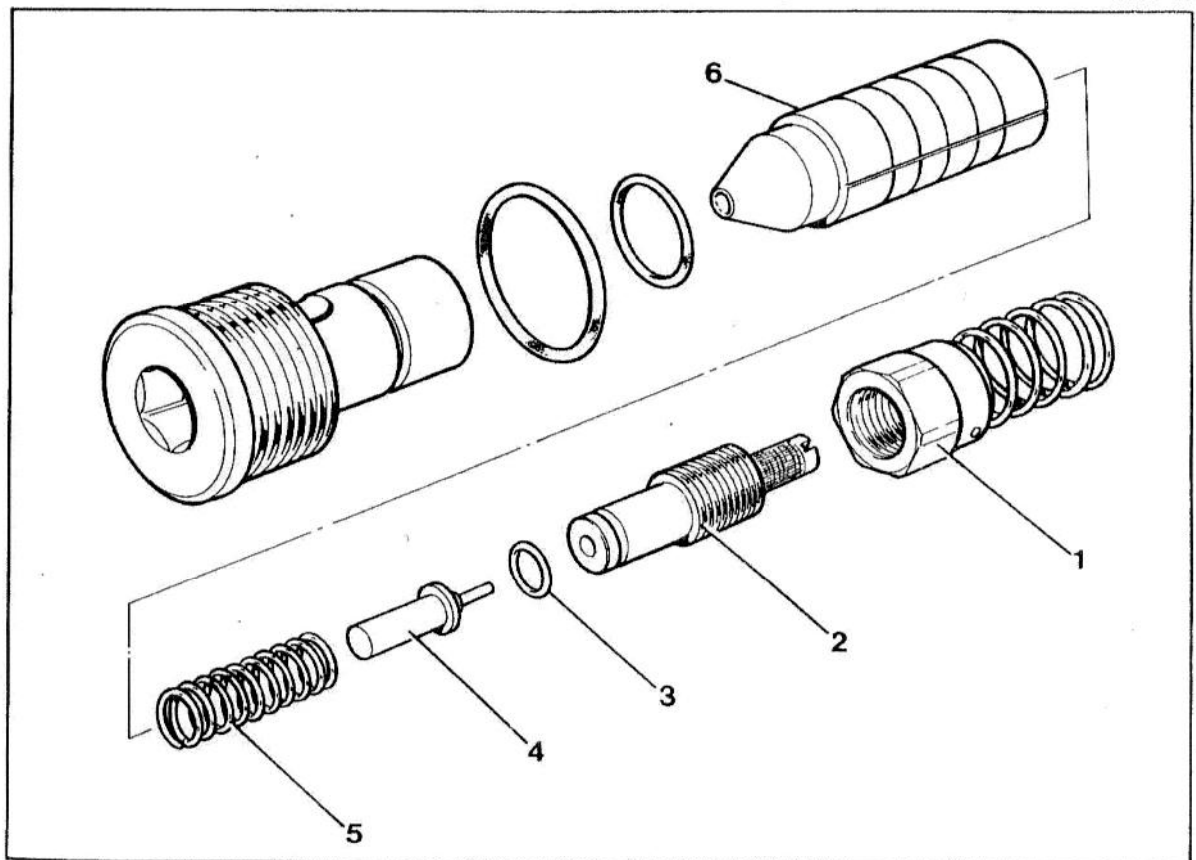

FIG. 14
1. (Fig. 14). Remove the pilot seat locknut and spring (1).
2. Unscrew and remove the pilot seat (2) complete with 'O' Ring (3).
3. Extract the pilot valve (4) and spring (5) from the body (6).